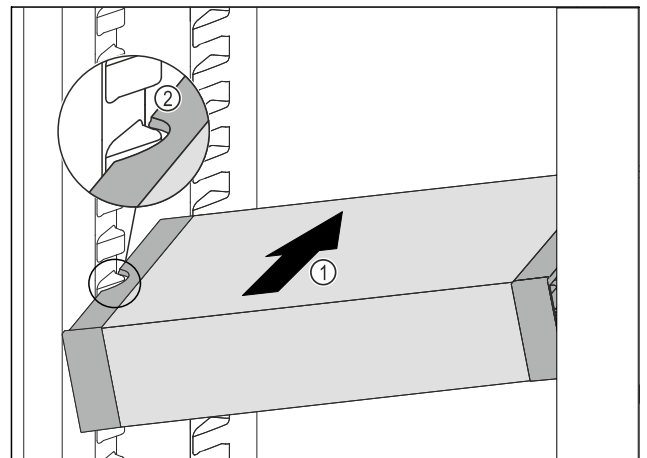

Fig. 92
- ▶ Insert the VarioSafe into the refrigerator compartment at an angle *Fig. 92 (1)* until the recesses in the side *Fig. 92 (2)* of the VarioSafe are at the level of the support rib in the refrigerator compartment.